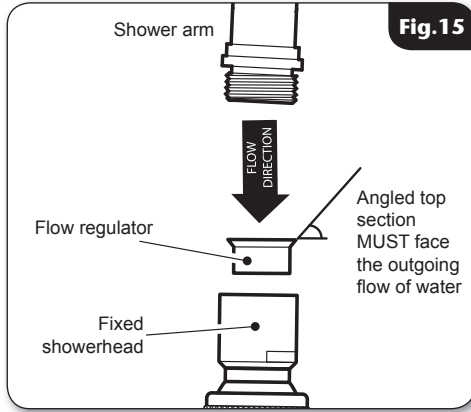

Fig.15
- Screw the fixed head (**fig.15**) to the shower arm.